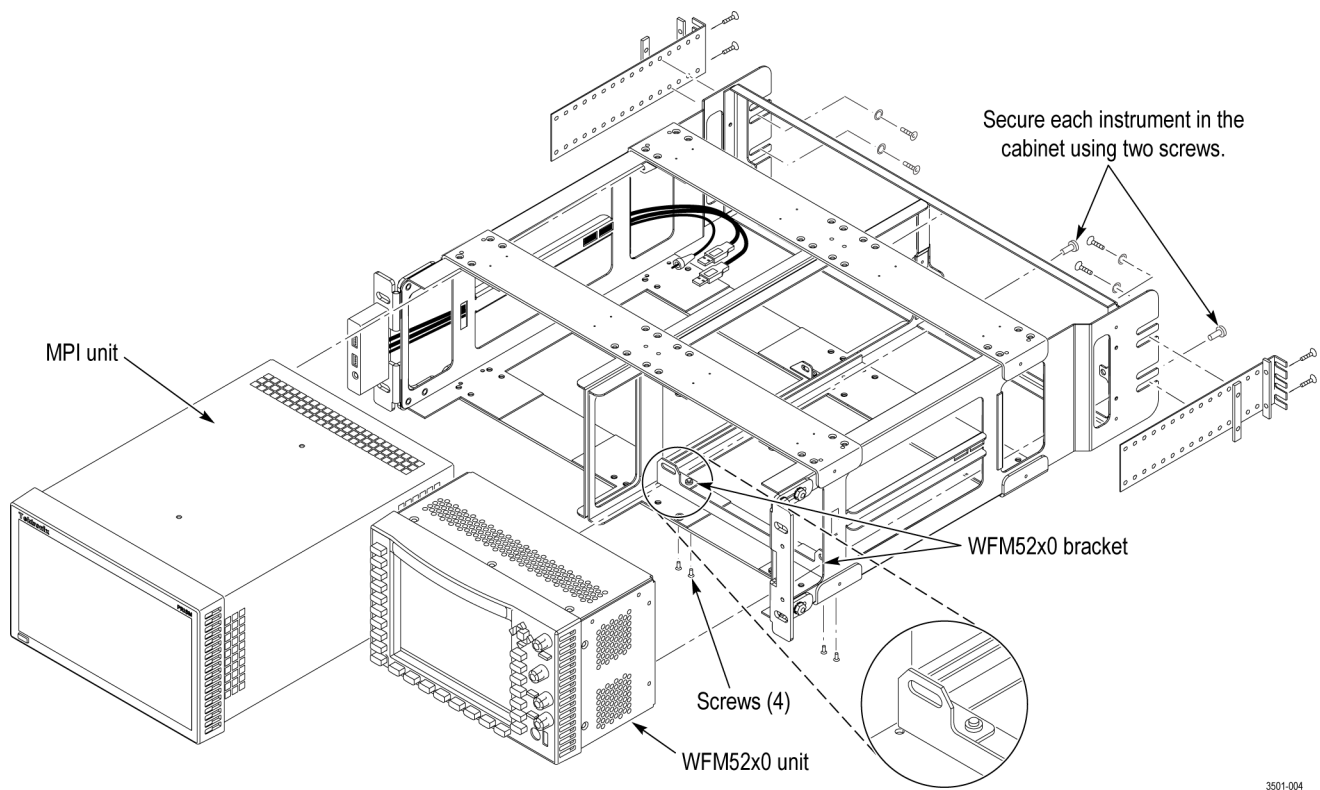
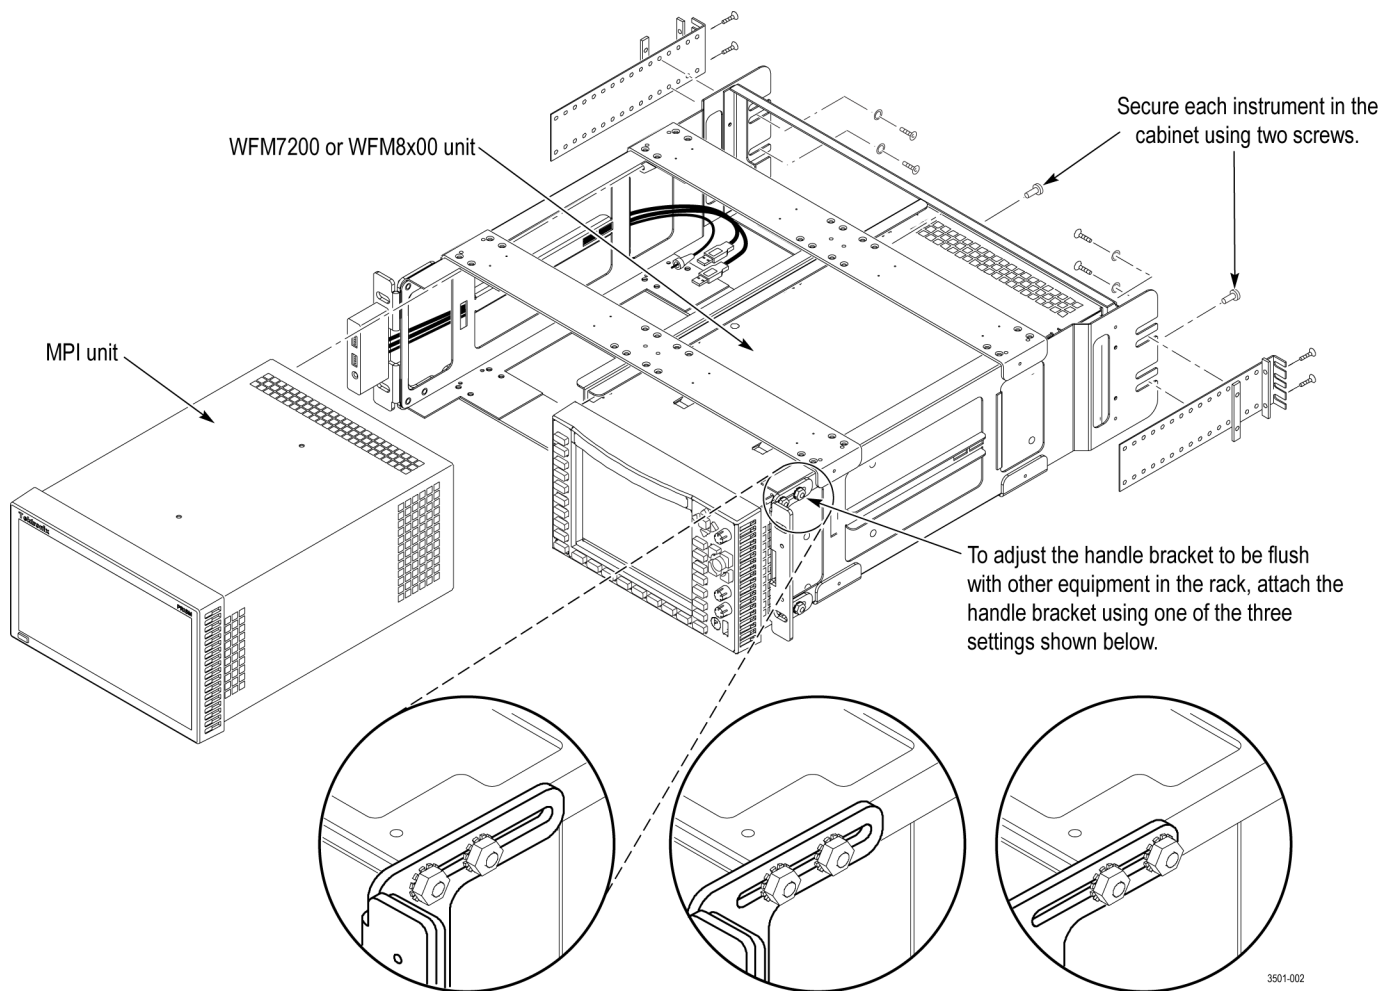
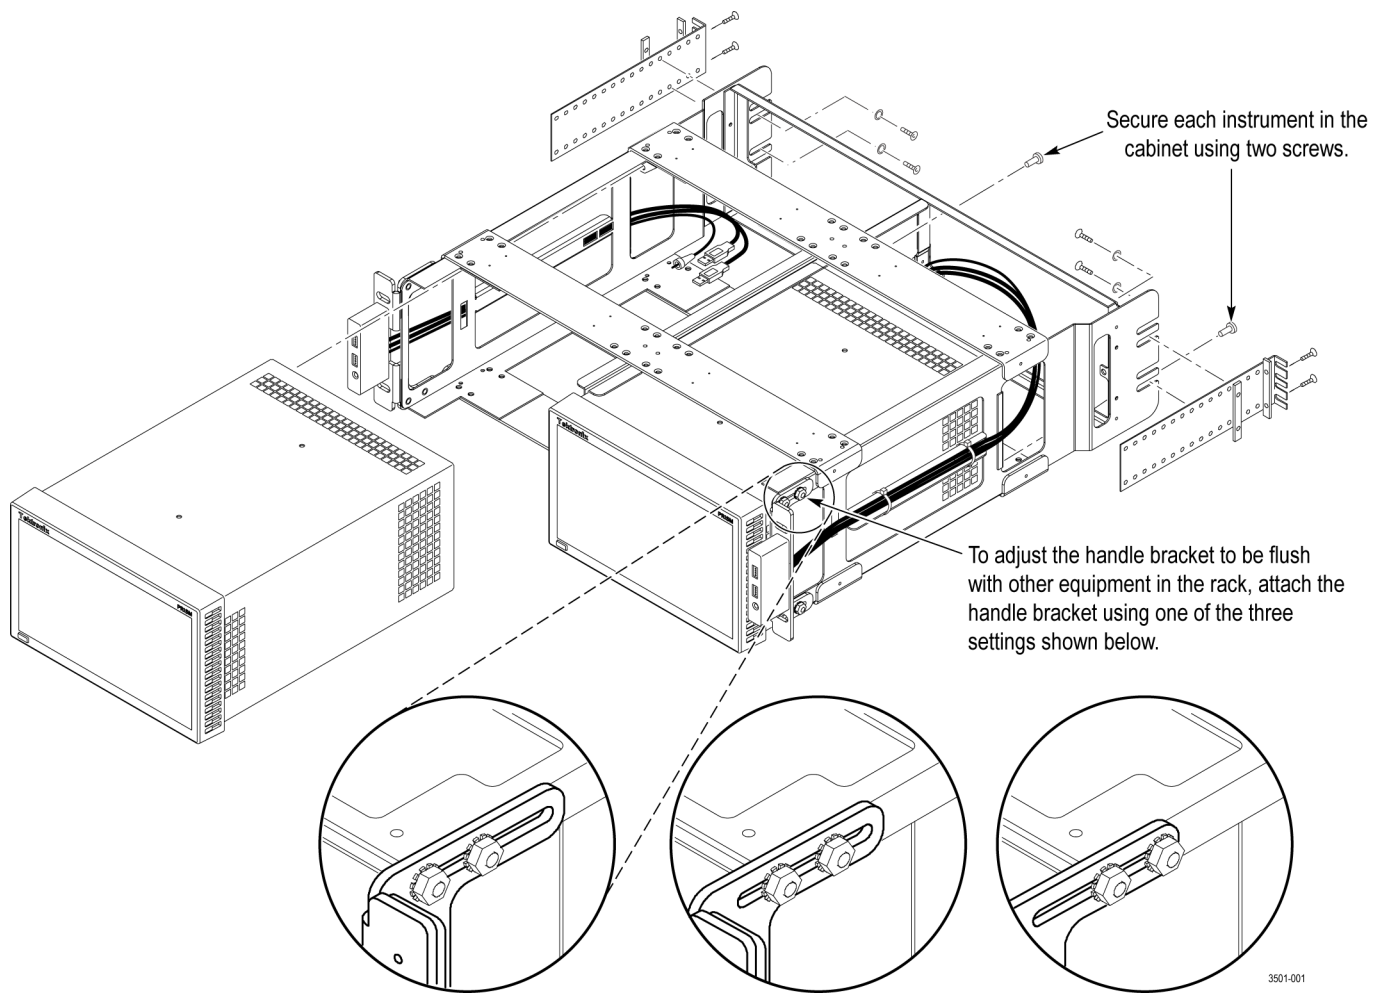

Figure 2: Installing one MPI monitor and one WFM52x0 waveform monitor in the MPI-RACK-MW dual rack cabinet
Figure 3: Installing one MPI monitor and one WFM7200 or WFM8x00 waveform monitor in the MPI-RACK-MW dual rack cabinet
Figure 4: Installing two MPI monitors in the MPI-RACK-MM dual rack cabinet
1. Position the dual rack cabinet so that the headphone jack(s) on the front of the cabinet is on the bottom. (See Figure 2.)
- a. Install the WFM52x0 bracket (item 9 in Table 2) in the right side of the cabinet as shown. (See Figure 2.)
- b. Secure the WFM52x0 bracket to the cabinet using four screws (item 4 in Table 2).
3. If desired, you can adjust the position of the handle brackets to mount the adapter flush with other equipment in the rack. To do this, loosen the nuts that attach the handle brackets to the rack adapter, adjust the position of the handle brackets as desired, and then tighten the nuts securely. (See Figure 3.)
4. Secure the rack adapter assembly to the front frame of the rack using four screws (item 6 in Table 2) and four shoulder washers (item 2 in Table 2).
5. Install one guide bracket (item 8 in Table 2) to one side of the rear frame of the rack using two screws (item 5 in Table 2) and one nut bar (item 7 in Table 2) as shown. (See Figure 2.)
6. Secure the guide bracket to the cabinet using two screws (item 5 in Table 2), two washers (item 1 in Table 2) and one nut bar (item 7 in Table 2). Use the holes in the bracket that will accommodate the depth of the instrument rack frame being used. Leave the screws loose.
1. Install an MPI unit in the dual rack cabinet: (See Figure 2.) (See Figure 3.) (See Figure 4.)
- a. Install a Tektronix WFM52x0, WFM7200, or WFM8x00 waveform monitor in the right slot of the dual rack cabinet. (See Figure 2.) (See Figure 3.)
- b. Use two screws (item 3 in Table 2) to secure the waveform monitor in the dual rack cabinet. The screws attach to the right and left holes in the middle of the instrument chassis as viewed from the rear.